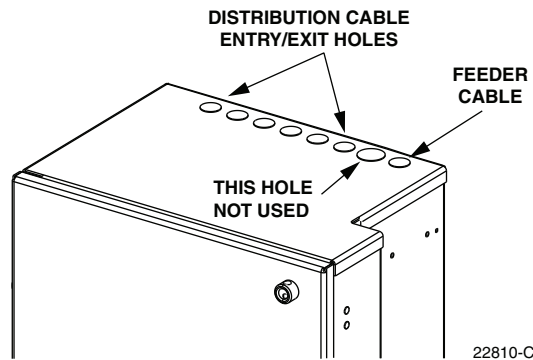

Figure 46. Distribution Cable Entry/Exit Holes
1. Locate the cable entry/exit holes (on top of the cabinet) that are specified for distribution cable installation as shown in Figure 46.